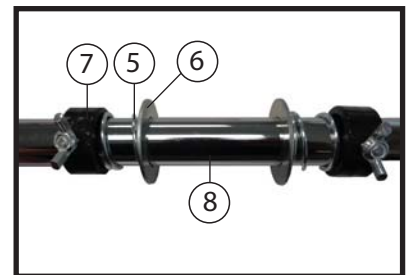

FIGURE 2
6. Fit paper cutter (3) to upper holes in front legs of side frames (1) using 1/4" screws (15), 1/4" washers (14) and 1/4" nuts (13).
8. Insert 1/4 x 3-1/2" bolts (18) through front legs of side frames (1) and tighten in place using 1/4" washers (14) and 1/4" nuts (13).
9. Thread a wing nut (17) onto each bolt (18) with the wings towards the frame leg.
10. Slide washer (14) and hub (20) onto each bolt (18) and then fit tape reels (19) onto hubs (20) with open sides towards side frame (1) legs.
11. Retain tape reels with washer (14) and wing nut (18).
12. Fit paper washers (6), paper bar spring (5) and paper retainers (7) to paper bar (8) as shown in fig.2. Insert 3/16 x 1/2" screws into paper retainers (5).
13. Locate paper bar (8) between bars of side frames (1) and retain with knob (16).
1. Remove paper bar (8) from frame and remove washers (6), springs (5) and retainers (7).
2. Slide paper bar (8) through center of masking paper roll so that, when reinstalled in frame, paper will come from top of roll towards front of dispenser.
3. Replace washers (6), springs (5) and retainers (7), as shown in fig.2, at each end of roll.